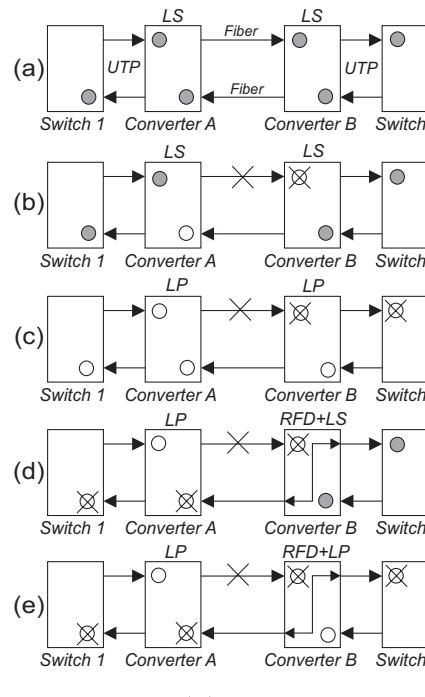

Figure 2: Link Modes
In order to accommodate different user needs, the Triple Speed supports four different link modes (see Fig. 2).
In Link Segment (LS), a port transmits a Link signal independently of any received Link at any other port. For example, the UTP transmits a Link regardless of the fiber receiving a Link [Fig. 2(a) & (b)].
In Link Propagate (LP), a port transmits a Link signal only when receiving a Link at its other port. For example, the UTP transmits a Link only when receiving a Link at the fiber receiving a Link [Fig. 2(c)].
In Remote Fault Detection + Link Segment (RFD+LS), the fiber port transmits a Link signal only when receiving a Link at the fiber port. As a result, fiber faults (no Link received at the fiber) are looped-back and can be reported to the network core [Fig. 2(d)].
In Remote Fault Detection + Link Propagate (RFD+LP), the UTP port transmits a Link signal only when receiving a Link at the fiber port. The fiber port transmits a Link signal only when receiving Link signals at both the fiber port and the UTP port. As a result, fiber faults (no Link received at the fiber) are propagated forward and looped back for fault reporting at both the network core and the customer location [Fig. 2(e)].